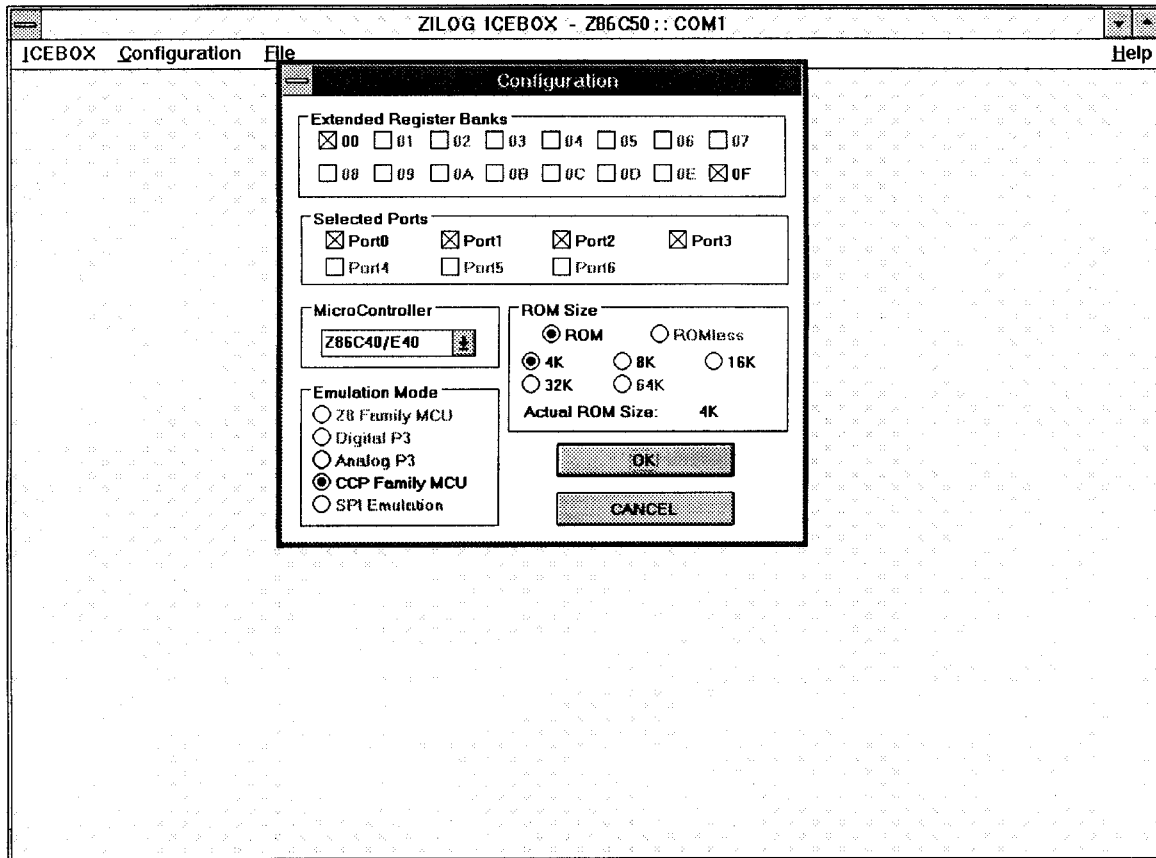

Figure 3-1. Zilog ICEBOX Configuration Dialog Box
5. Select the Z8 microcontroller currently being emulated from the microcontroller section in the Configuration Dialog Box (see Figure 3-1).
6. Select the emulation ROM size (see Figure 3-1, which shows this value as “4K”). This affects the size of the code file you can download.